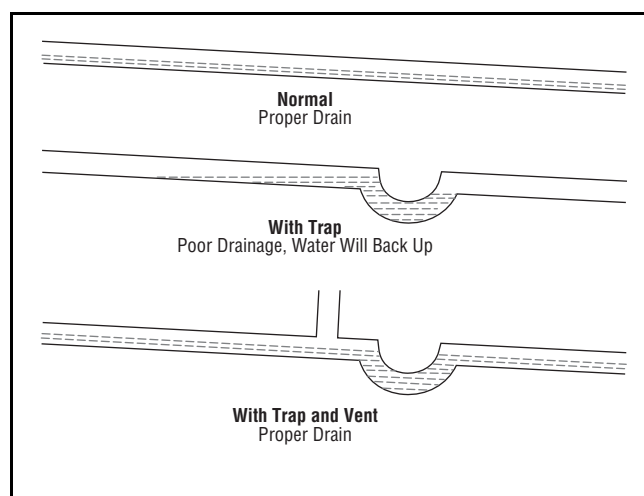

Figure 31
- Drain line does not create traps or created traps are vented (see **Figure 31**).